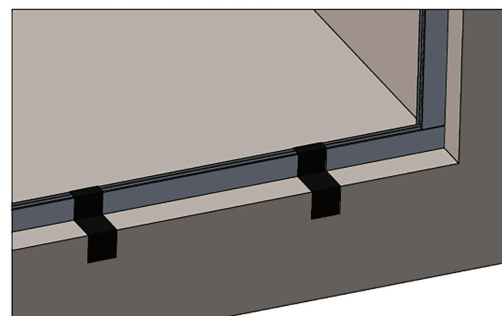

FIGURE 7
Now that you have the Wall Jamb (A) mounted, it is time to mount the panel Wall Channel (C) and Curb Channel (D). You should have two different length pieces of the channel (ZSS 4504), the shorter one is the bottom channel or Curb Channel (D), the longer is the Wall Channel (C). Take the Curb Channel (D) and place on your "centerline" of your base and make sure it is all the way against the wall. (See Figure 7)
Use your masking tape to secure the Curb Channel (D) to your base. **DO NOT SUE SILICONE OR SCREWS YET, ONLY TAPE.** (See Figure 7)